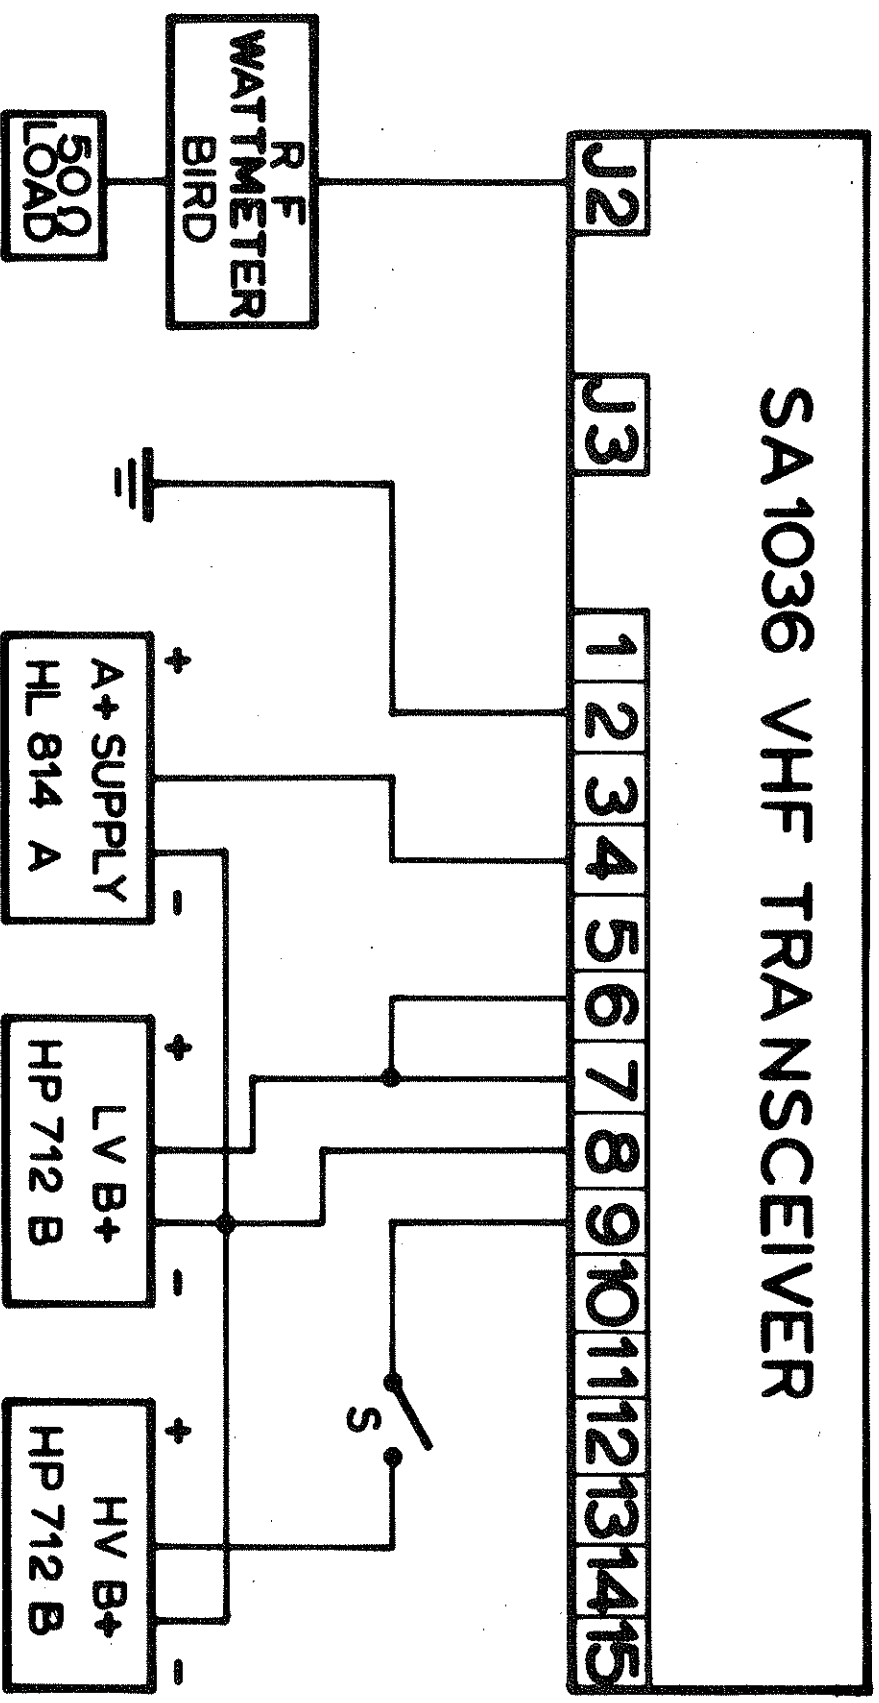

FIG. 3.9 TEST SET OPERATION
3.4.12.1 Connect equipment as shown in Fig. 3.9. High B+ set at 500v. Do not close switch S.